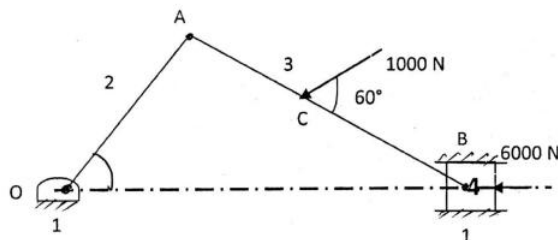

Figure 1
- (b) Determine the torque required to be applied at the crank shaft of a slider crank mechanism to bring it in equilibrium. The slider is subjected to horizontal force of 6000 N and a force of magnitude 1000 N is applied on the connecting rod as shown in Figure 1. The dimensions of the link are as under: